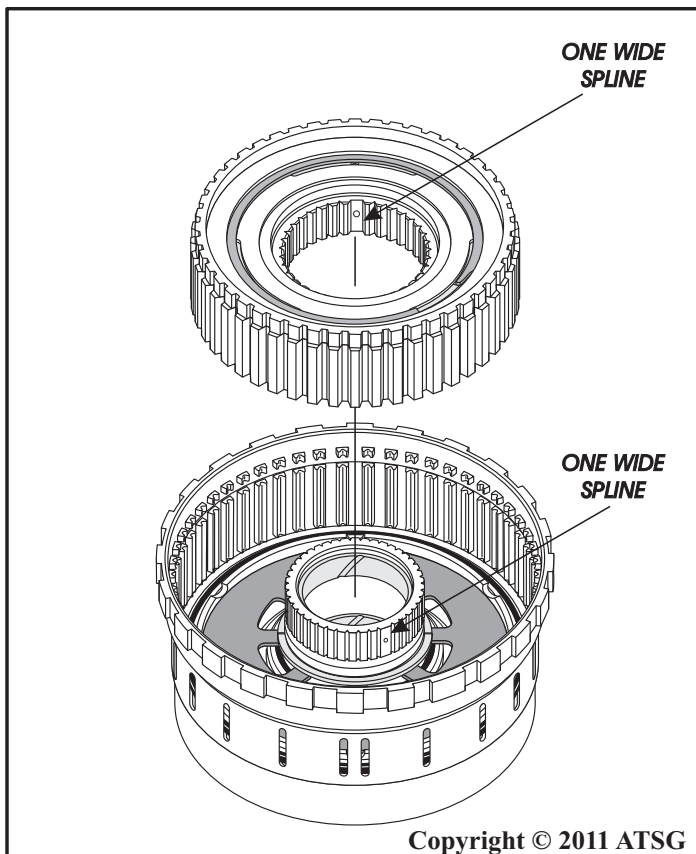

Figure 77
30. Install the completed low sprag assembly into the low/reverse clutch housing, as shown in Figure 77.
Note: *The low/reverse clutch housing has one wider spline on the inner hub where the inner sprag race splines to it, and the inner race must be rotated to engage the splines, as shown in Figure 77. This is done to ensure alignment of the lube holes.*